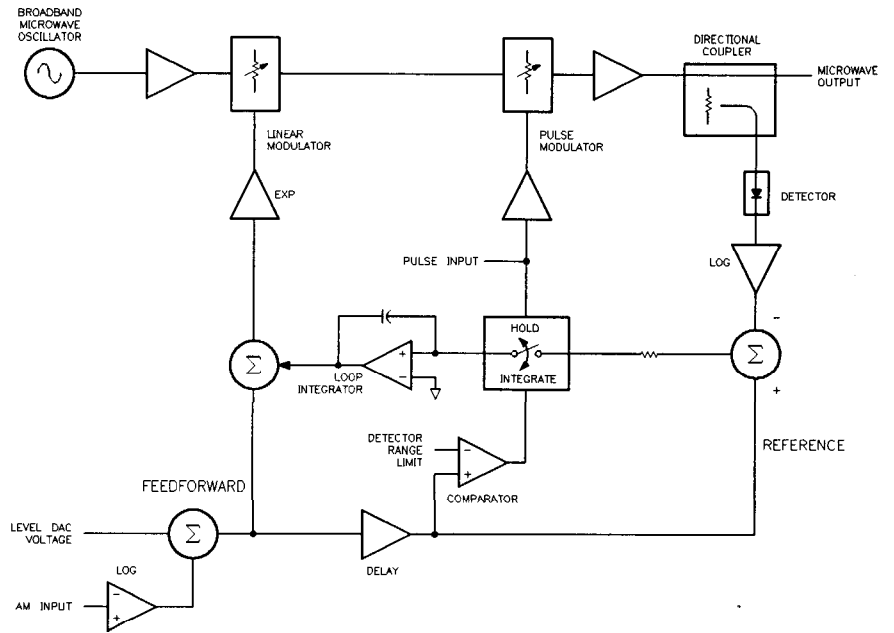

Figure M-1. ALC Block Diagram
**General Circuit Theory** The synthesizer’s amplitude and pulse modulation performance is directly tied to the ALC (Automatic Level Control) system. Refer to the ALC block diagram in Figure M-1. The ALC system controls the amplitude or power level of the RF output. A portion of the output signal is detected, summed with the reference level signal, and the difference (error) signal drives an integrate-and-hold circuit. The integrator output drives the RF output power level via the linear modulator. When the sum of the detected and reference signals is 0 volts, the output of the integrator is held at a constant level and the RF output is leveled. This loop is bandwidth-limited by the integrator and the integrate-and-hold circuit. Notice, however, that there is a *feedforward* path that allows changes in power level that are bandwidth-independent from the rest of the ALC loop. Power level information supplied by the level DAC and AM input travels the feedforward path to drive a linear modulator. (See **ALC** for additional information on the ALC system.)
Deep AM engages a comparator circuit (see Figure M-1) to sense the power level of the detected signal. When the signal level is out of the detector's range, the loop integrator switch opens (opening the ALC loop). The output of the integrator is frozen, applying a constant drive to the modulator. Since the modulator's most linear range is at low power levels, the AM envelope distortion is minimal. When the comparator senses a signal that is within the detector's range, the integrator switch is closed, re-engaging ALC loop leveling.